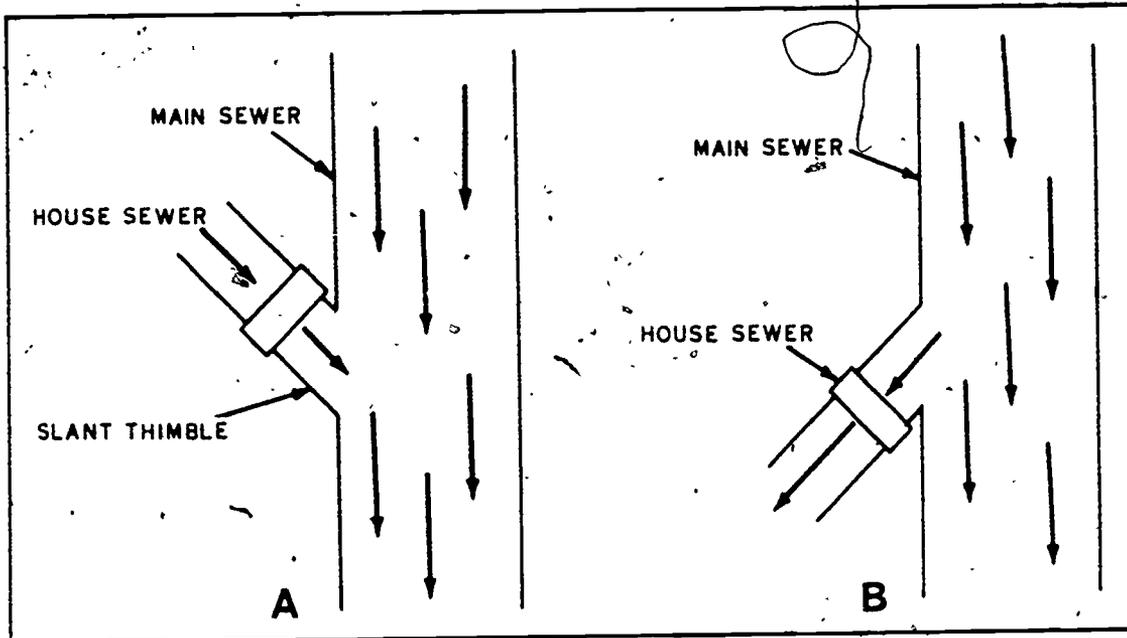
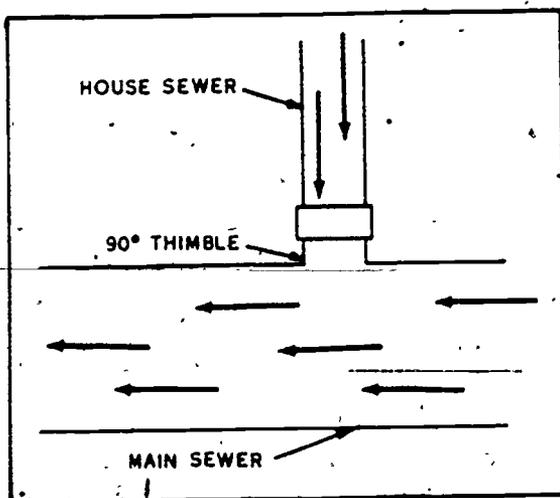

Figure 1.9. Installation of thimbles.
Figure 1-10. Thimble placed at 90° to main sewer.
**Measuring and Cutting Thimbles.** The house sewer is connected to the main sewer by a thimble, which is a short section of sewer pipe with a hub. The degree at which the thimble enters the main sewer is very important. It should be placed at an angle which will discharge the flow from the house sewer in line with the direction of the flow in the main sewer, as shown in A of figure 1-9. Never place the thimble in a direction which will produce a scooping effect, as shown in B of figure 1-9. During periods of high sewage flow in the main, such an installation would produce a backflow from the main sewer and might flood the lower levels of the building. In some cases where the house sewer is above the grade of the main sewer, a thimble placed at 90° to the main sewer (see fig. 1-10) makes a satisfactory connection.